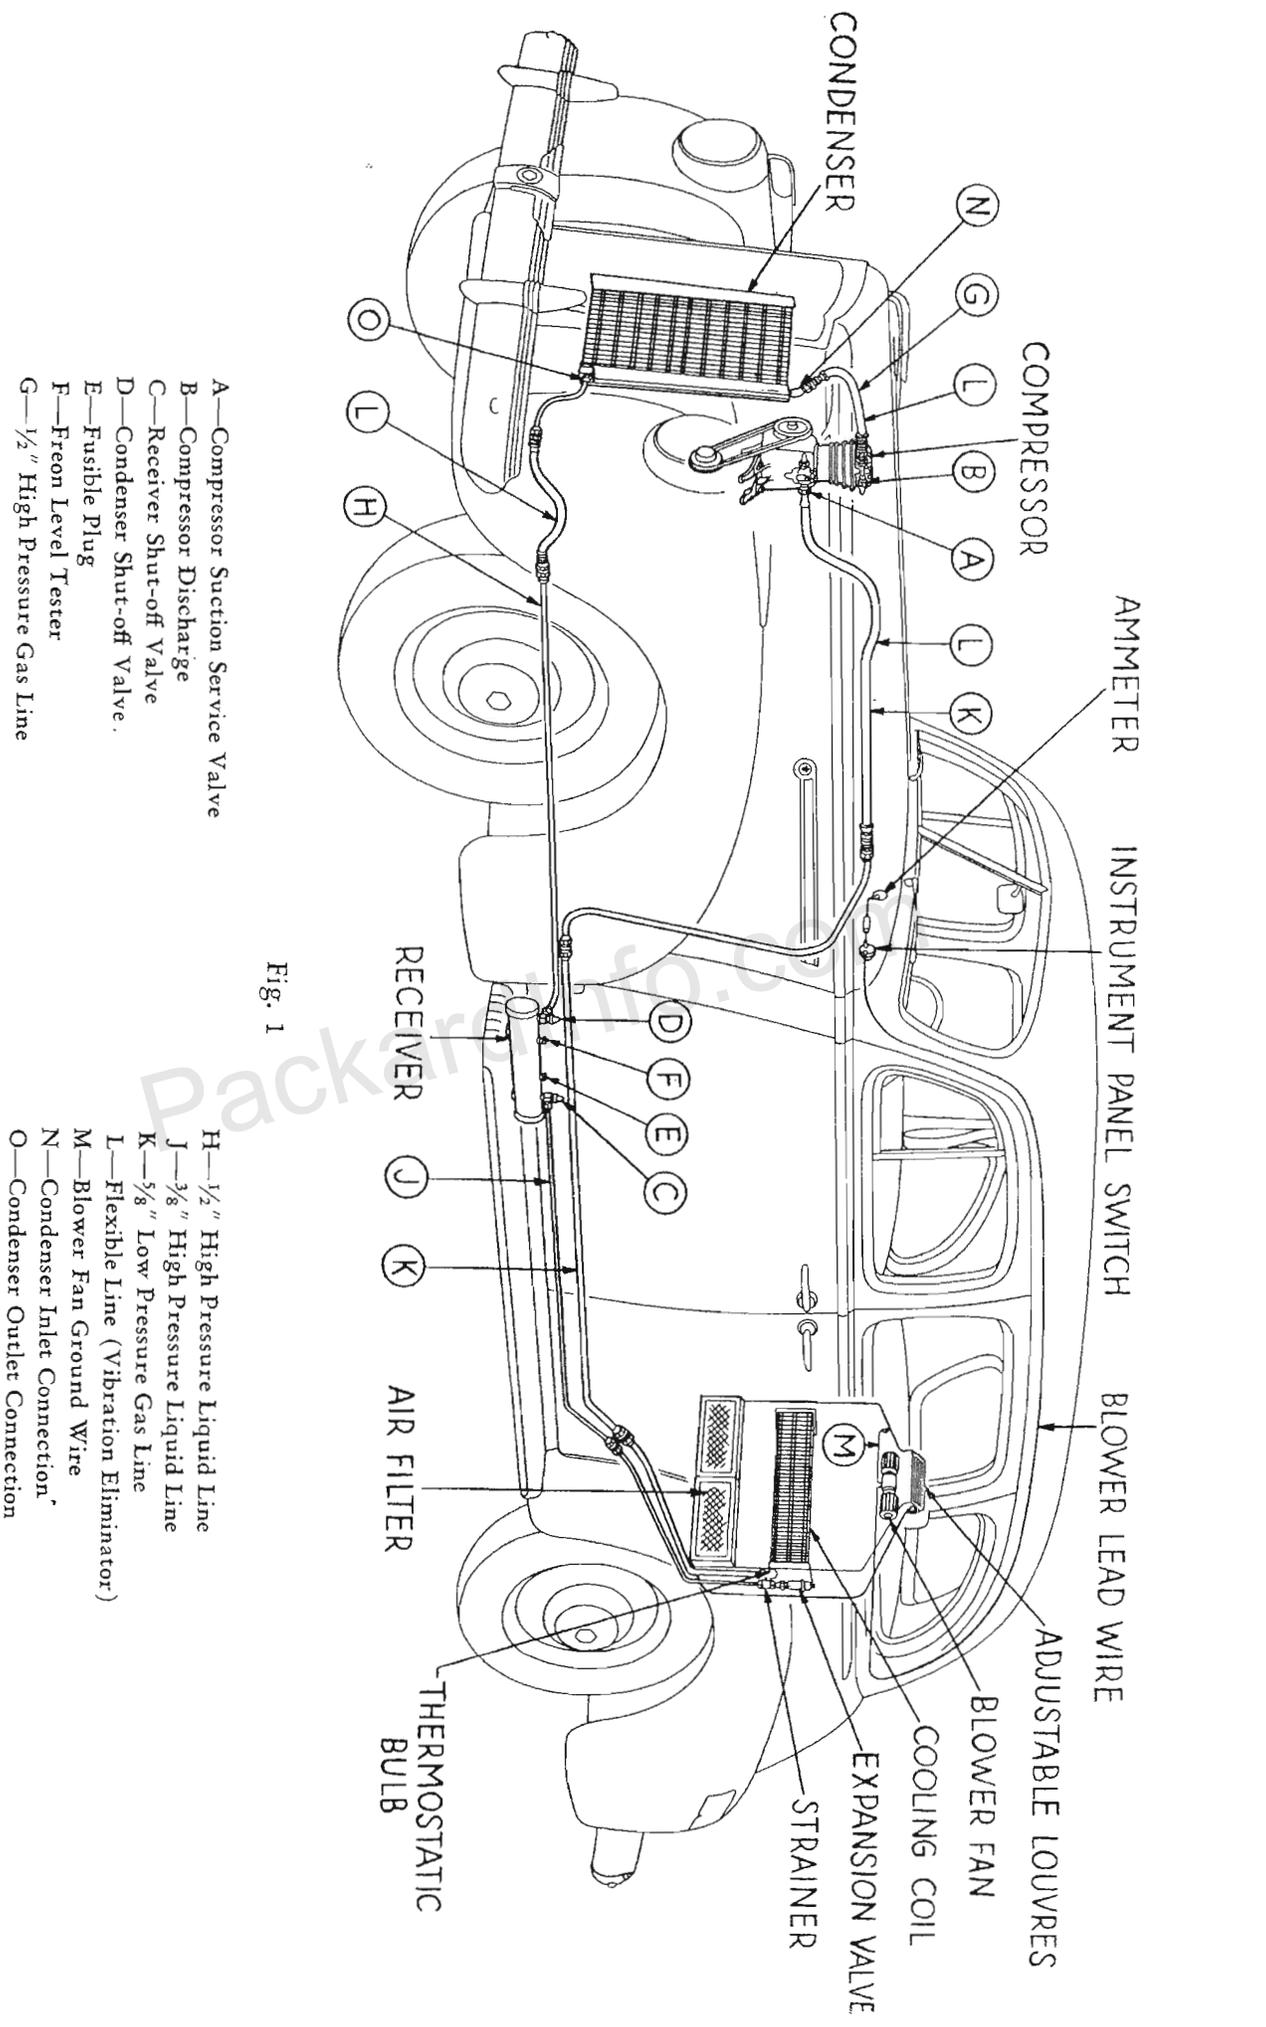
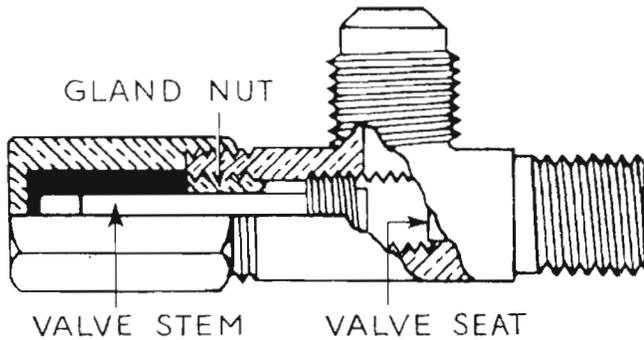
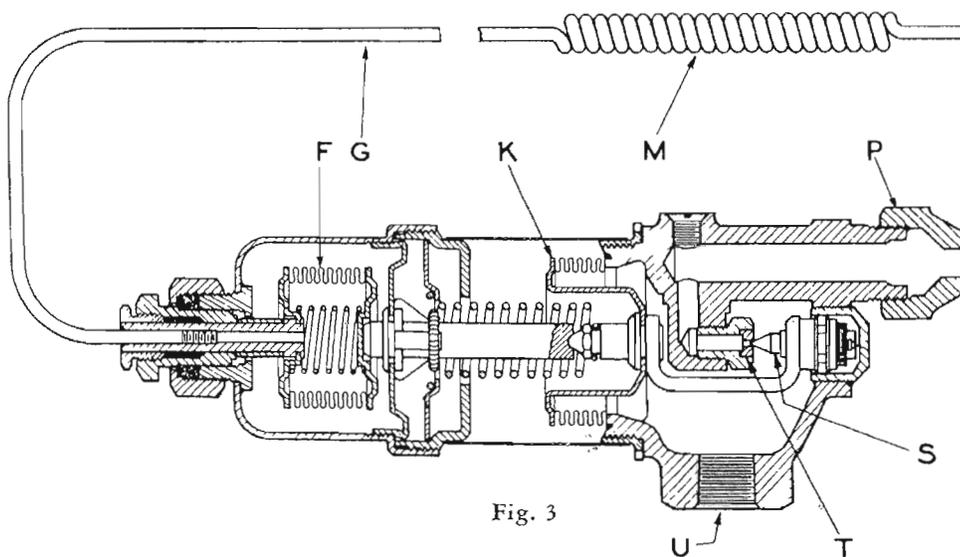

Fig. 1
Fig. 2
Fig. 3
The Compressor Suction Service Valve "A," Fig. 1, is located at the Compressor inlet connection. It is of the double-seating type which seats or closes when it is screwed in all the way and also when it is screwed out all the way. (See Fig. 2.) When the valve is in the "in" position, the suction line is shut off from the Compressor. When the valve is in the "out" position or "back-seated" it is in the operating position, the Service Port Plug may be removed to permit attachment of the low-pressure or compound gauge or the charging line.
The Compressor Discharge Service Valve "B," Fig. 1, is located at the Compressor outlet connection. This valve is identical to the Compressor Suction Service Valve, except that it is for $\frac{1}{2}$ " tubing instead of $\frac{3}{8}$ " tubing. The Discharge Service Valve controls the outlet for refrigerant gas from the Compressor to the Condenser, and provides a connection for the attachment of the high pressure gauge.
The Receiver Shut-off Valve "C," Fig. 1, is of the single-seating type as shown in Fig. 3. It is located at the outlet of the Receiver and is used when it is desired
The Condenser Shut-off Valve "D," Fig. 1, is of the same type as shown in Fig. 3. It is located on the inlet of the Receiver and is used to retain the gas in the Receiver, after pumping back, so that the Condenser may be removed without loss of charge.
To determine whether there is any refrigerant in the system, open the Liquid Tester "F," Fig. 1, on the Receiver, using Liquid Receiver Key S.T. 10074. If gas escapes from the tester, there is refrigerant in the system. If no gas escapes, the refrigerant has been lost and it is quite probable that air has entered the system. In this case, proceed as described in the first four steps in the section "To Completely Recharge the System from a Freon Drum."
1. Remove cap from Compressor Suction Service Valve "A," Fig. 1.
3. Remove plug from service port (Fig. 2).
6. Repeat the above operations with the Compressor Discharge Service Valve "B," Fig. 1, attaching the High Pressure Gauge line to service port in this valve and purging the line as before by opening the valve on the High Pressure Gauge side of the gauge block.
2. Remove cap from $\frac{3}{8}$ " Receiver Shut-off Valve "C," Fig. 1, and close valve by turning valve stem clockwise as far as it will go.
2. When all the Freon has been pumped from the low pressure side into the Receiver close the Condenser Shut-off Valve "D," Fig. 1, located at the front of the Receiver.
1. Loosen nut and remove $\frac{3}{8}$ " line from inlet connection to Strainer, Fig. 1.